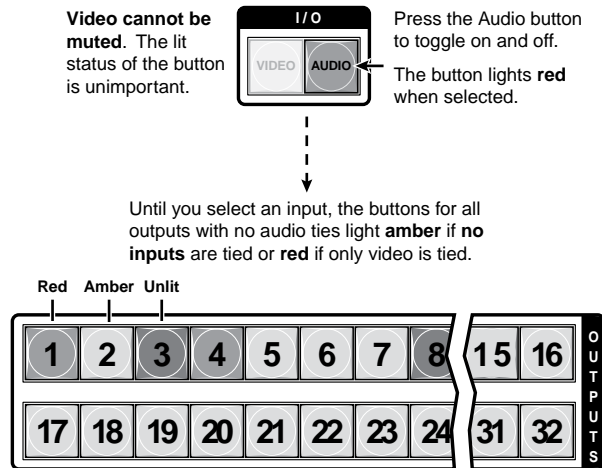

Figure 3-46 — Select audio only
3. To select audio (or RS-232) for viewing and muting, if necessary, press and release the Audio button (figure 3-46).